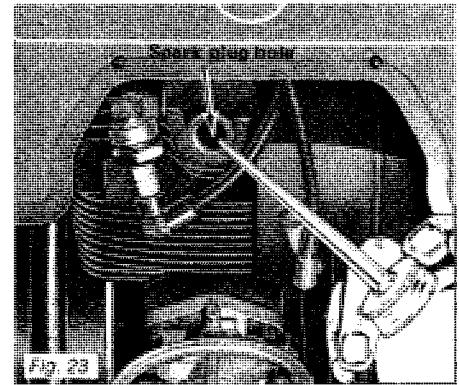

Fig. 23
4. Pour about one spoonful of Ski-Doo\* oil into spark plug hole. (See Fig. 23).